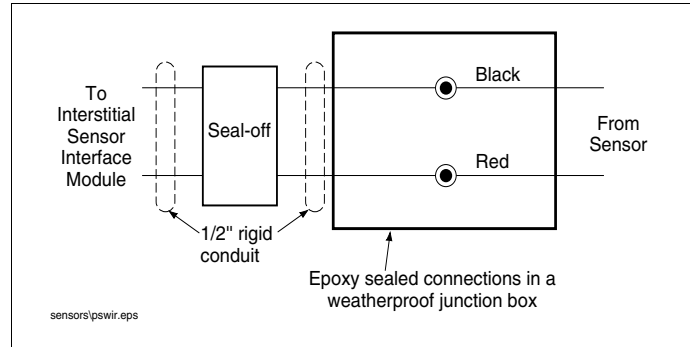

Figure 2. Sensor Field Wiring Diagram
- Using wire nuts, connect the two-wire sensor cable to the field wires in the sensor junction box (see Figure 2). Note, the Sump Sensor wiring has no polarity.